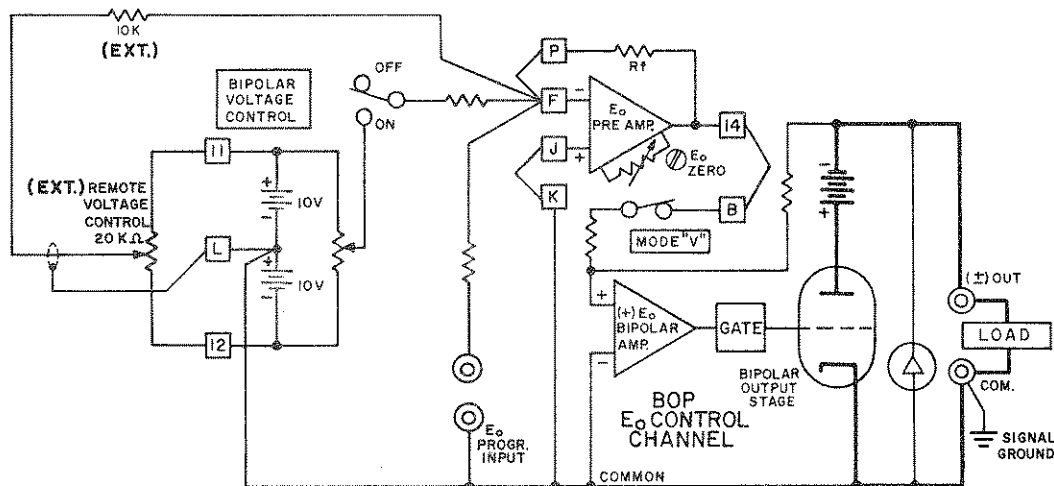

FIG. 3-4 REMOTE POTENTIOMETER CONTROL OF THE BOP D-C OUTPUT VOLTAGE
3-11 REMOTE D-C OUTPUT VOLTAGE CONTROL BY RESISTANCE. As seen in FIG. 3-4, and as described in a previous paragraph (PAR. 3-6) the BOP d-c output potential can be controlled within its specified range by means of the BIPOLAR VOLTAGE CONTROL, with the BIPOLAR VOLTAGE CONTROL SWITCH in the ON position. Since the E_O PRE-AMP, with the built-in feedback and input resistors, has a gain of one, and the E_O BIPOLAR AMP have respective gains of 50 (BOP-500M) and 100 (BOP-1000M), a d-c input signal of zero to $(\pm)10V$ will control the BOP output through its specified range. In the local (front panel) control mode, the d-c control potential is applied via the BIPOLAR VOLTAGE CONTROL.
- 3-12 As shown in FIG. 3-4, this control method can readily be performed remotely, by setting the BIPOLAR VOLTAGE CONTROL SWITCH to the OFF position and connecting an external REMOTE VOLTAGE CONTROL as indicated in FIG. 3-4.